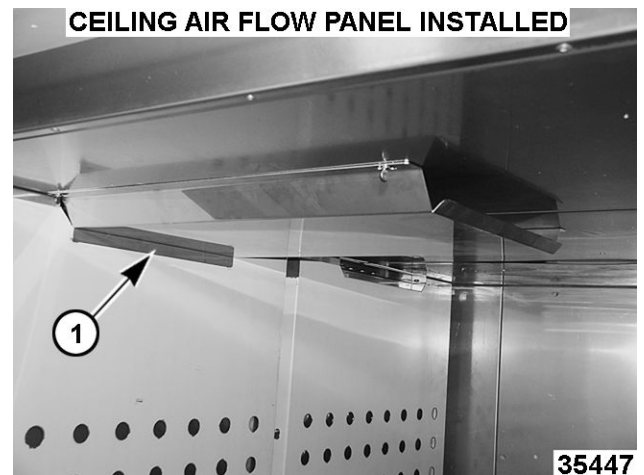

Fig. 51
3. Slide panel flange (1, Fig. 51) tightly against air duct intake cover.